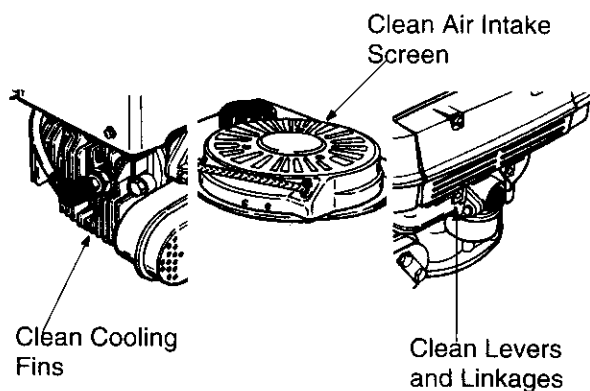

Figure 14
- To ensure smooth operation of the engine, keep the governor linkage, springs and controls free of debris. See Figure 14.